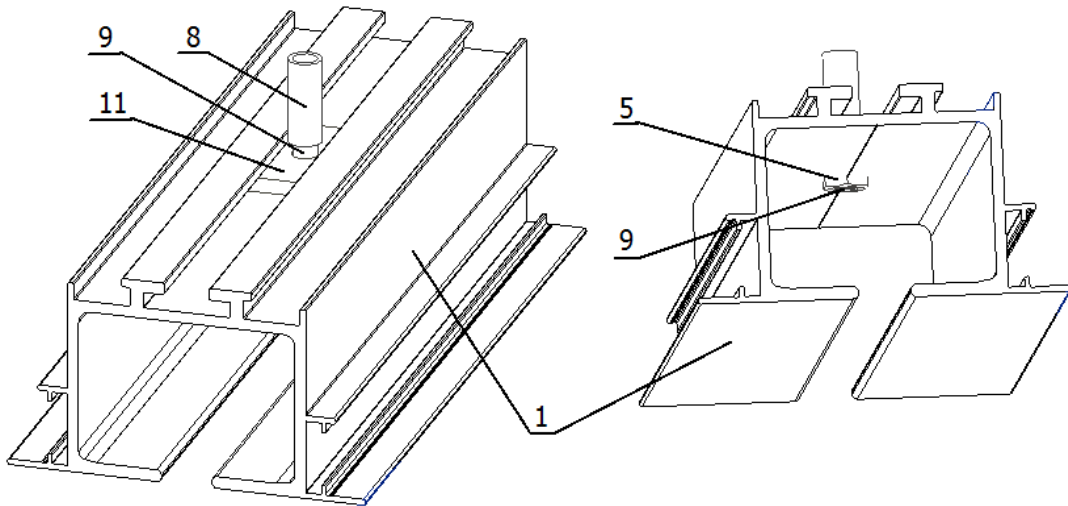

Fig.17. Scheme of track mounting directly to the ceiling
- directly to the ceiling (Fig.17)